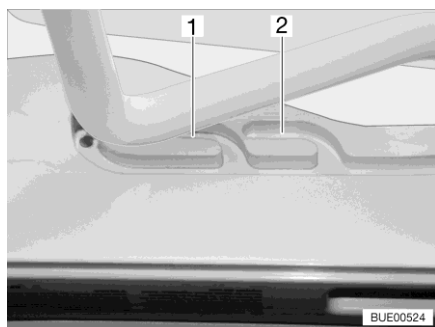
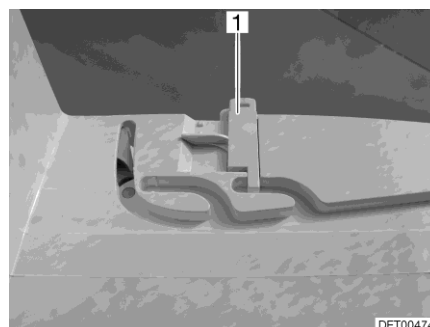

Fig. 96 Guide (ventilation position)
Fig. 97 Lock (ventilation position)
The Heki skylight can be put in two ventilation positions: Bad weather position (Fig. 96,1) and central position (Fig. 96,2). Depending on the model, the skylight can be locked in the central position with both left and right latches (Fig. 97,1) on the skylight frame.
- Push the bar slightly upwards and into the selected guide (Fig. 96,1 or 2) and lock if necessary.